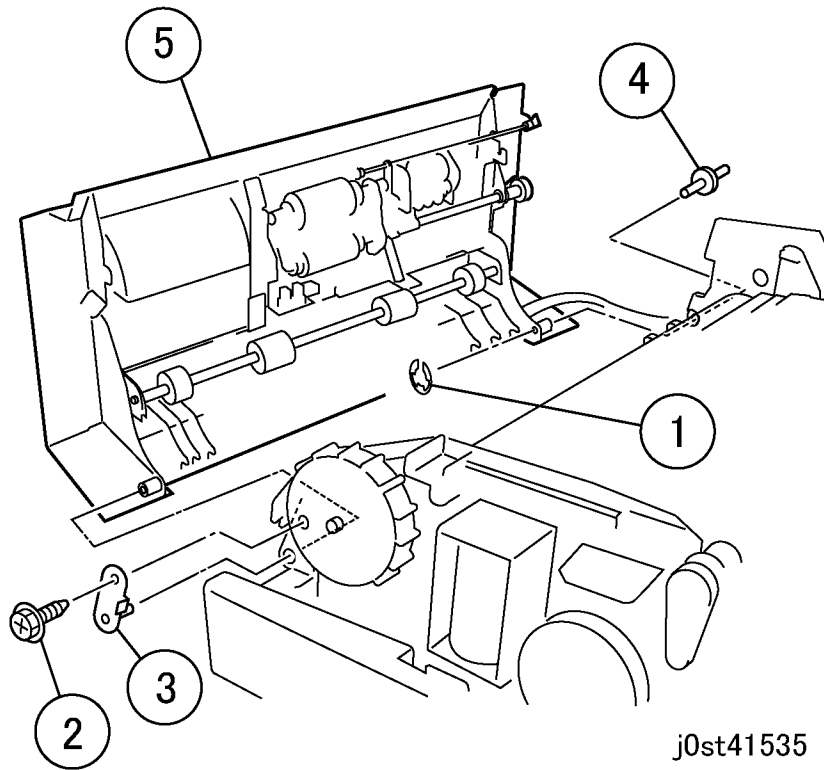

Figure 4 Removing the Top Cover Assembly
6. Remove the Top Cover with the Wire Harness connected. (Figure 4)